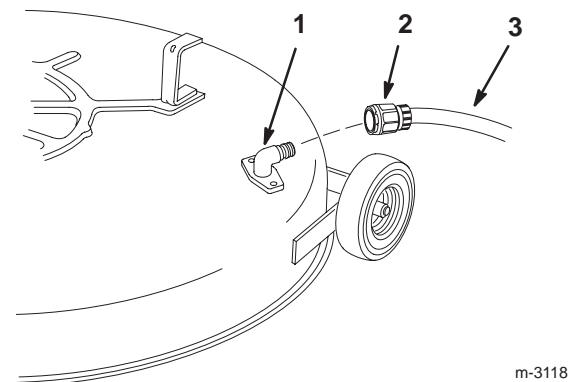

Figure 50
- Attach the coupling to the end of the mower washout fitting and turn the water on high (Fig. 50).